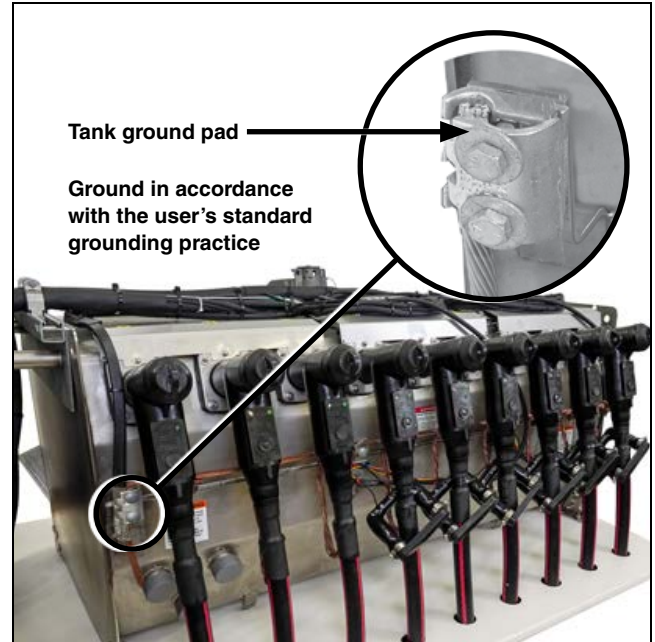

Figure 81. The tank ground pad.
- STEP 1.** Connect the cable concentric-neutral ground wires to the grounding system as appropriate. See Figure 81.